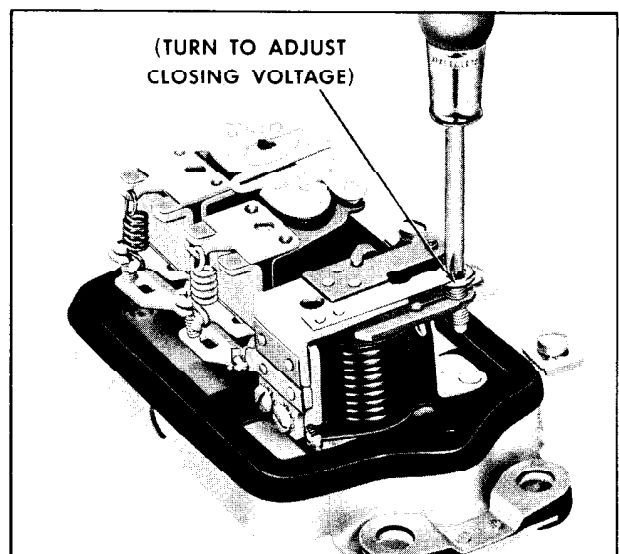

Fig. 13-22 Adjusting Cutout Relay Closing Voltage (35 Ampere Shown)
4. Adjust the closing voltage to 12.8 volts by turning the adjusting screw clockwise to increase the setting or counterclockwise to decrease the setting. (Fig. 13-22)